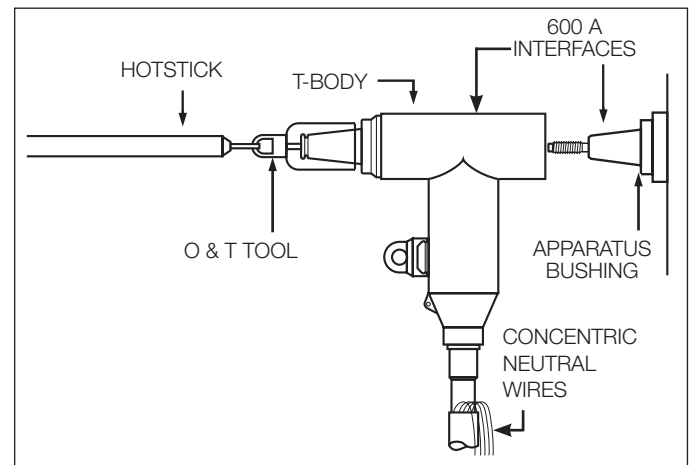

Figure 16.
- Using hotstick, insert O & T tool into LRTP throat and engage rotating nut. (Refer to Figure 16.)